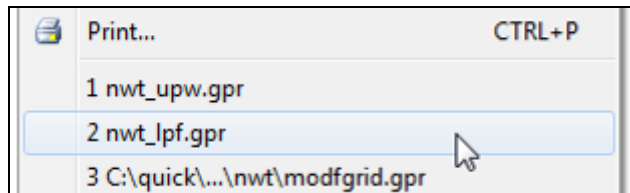

Figure 4 Reopen the nwt_lpf.gpr model
2. Select “nwt_lpf.gpr” from the list of recent files at the bottom of the *File* menu (Figure 4).